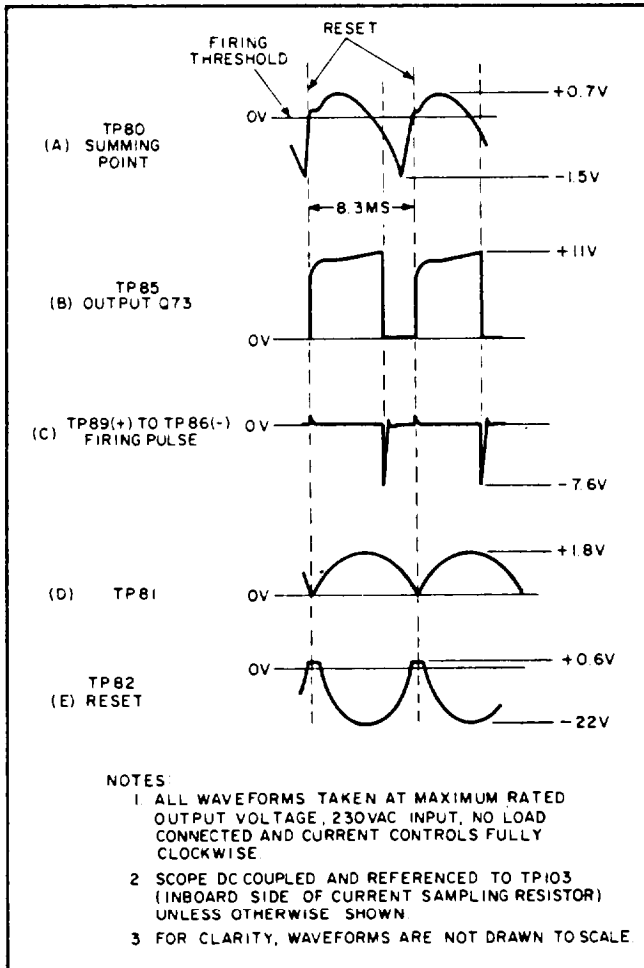

Figure 4-4. Preregulator Control Circuit Waveforms
4-24 The summation of the input signals results in the generation of a voltage waveform at TP80 similar to that shown in waveform (A) of Figure 4-4. When the linear ramp portion of the waveform reaches a certain negative threshold voltage, diodes CR74 and CR75 become forward biased. The negative voltage is then coupled to the base of transistor Q72. Transistors Q72 and Q73 form a squaring circuit resembling a Schmitt trigger configuration. Q72 is conducting prior to firing time due to the positive bias connected to its base through R84. Transistor Q73 is cut off at this time because its base is driven negative by the collector of Q72.
waveform (C) of Figure 4-4, the firing pulse is quite narrow because Q73 saturates rapidly, causing the magnetic field surrounding T70 to collapse. Diode CR76 damps out positive overshoot.